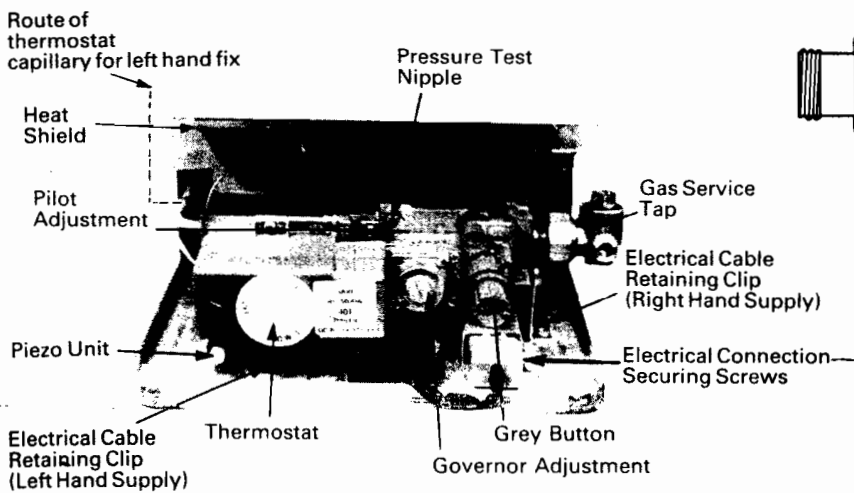

Fig. 7. Boiler Controls
- Route the thermostat capillary under the heat shield and up the left hand side (Fig. 7). The thermostat phial now fits in the pocket at the **LEFT HAND SIDE IN THE LOWER SECTION**.
The recommended cable for the connection to the boiler terminal trip is 0.75mm² – 24/0.20 PVC heat resistant grade (70°C). To BS 6500 Table 16. It is preferable to have the electrical supply cable coming from the right hand side of the builders opening. If however it must come from the left hand side it must be fitted to the alternative clip provided (Fig. 7). It is important to route any input cable to avoid contact with the combustion box sides.
6. Turn the boiler thermostat to the "OFF" position (Fig. 7).
8. Slacken the test point sealing screw and connect a pressure gauge (Fig. 7).
9. Hold in the grey button on the gas control valve (Fig. 7).
To connect the electrical wiring to the boiler proceed as follows. (Fig. 7).
- (h) Clamp the cable to the boiler base with the plastic 'P' clip and screw found in the kit. (Fig. 7).
yellow tip and approximately 25mm (1in) long. Adjust if necessary (Fig. 7).
14. Remove the cover screw and adjust the appliance governor (Fig. 7) to the setting pressure corresponding to the required input. Check the pressure after ten minutes burning time and adjust if necessary. Adjust the input indicator arrow on the data label if necessary.